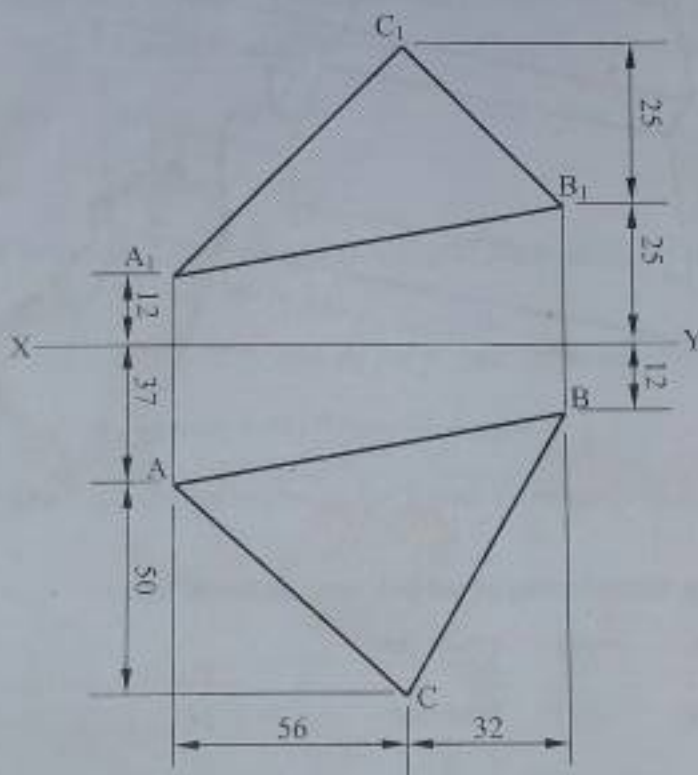

Figure 2
2. Projection of a triangle ABC is shown in Figure 2.